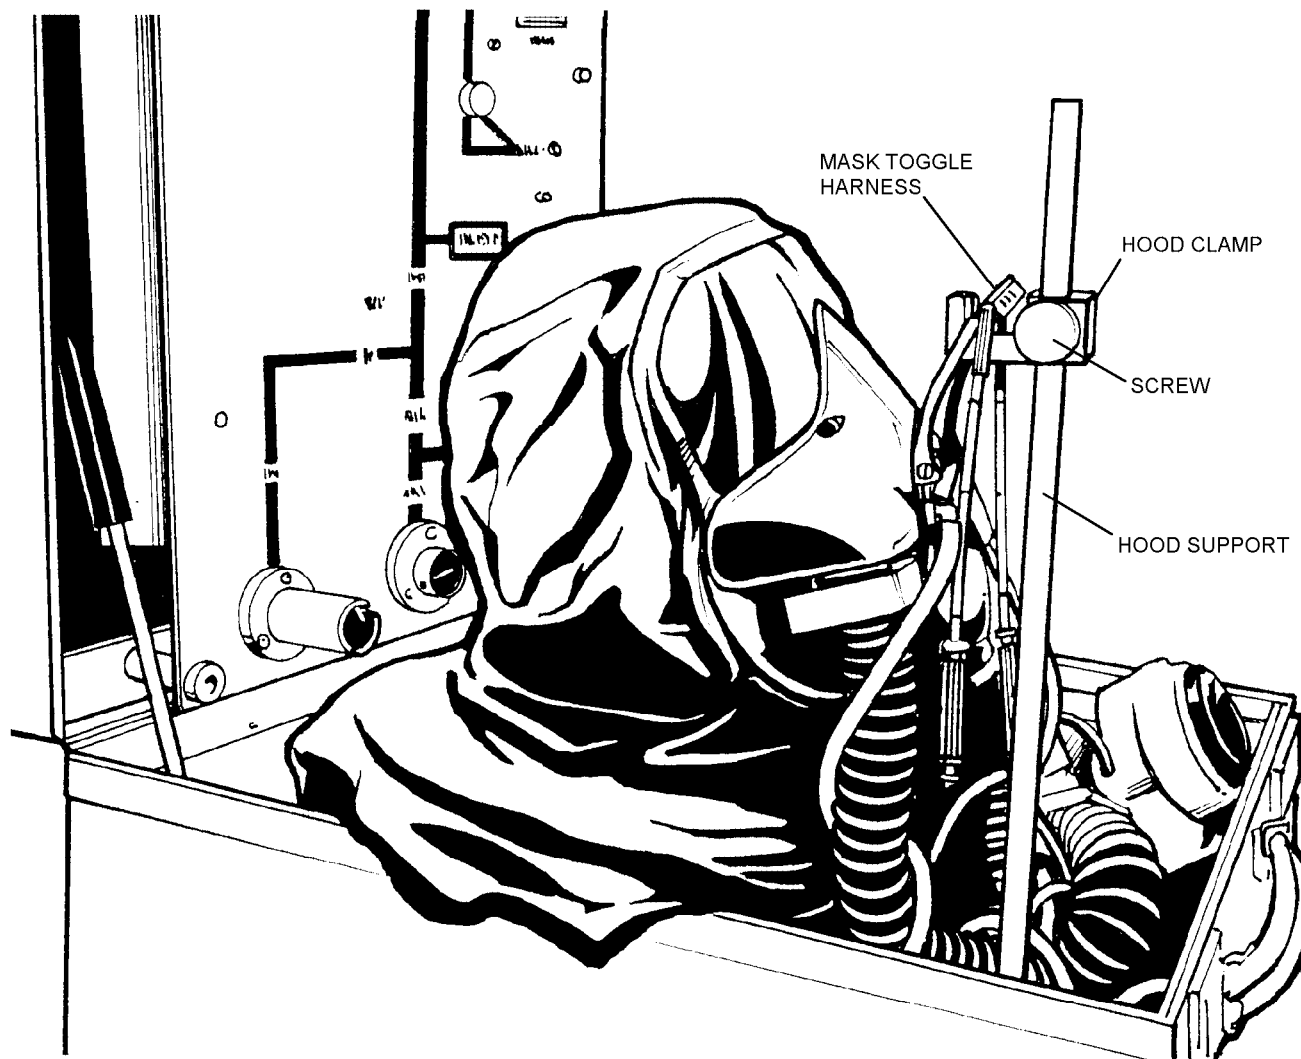

Figure 3-35. Hood Support Clamp
2. Support mask toggle harness on hood support clamp (figure 3-35).